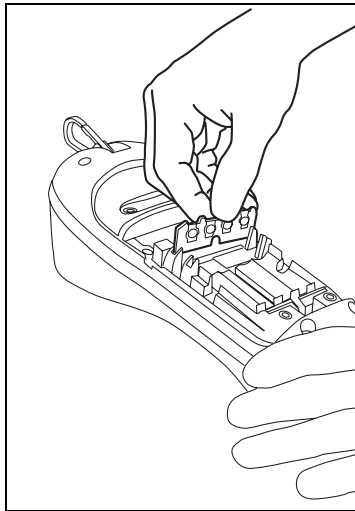

Figure 3-1. Removing the Movable Wall
- 5 If replacing NiMH batteries with alkaline batteries, first pull the movable wall out of its slot (see Figure 3-1) and move the wall forward to the first slot. Make sure the wall fits correctly into the slot. Be careful not to break the leads of the white cable ribbon behind the wall.